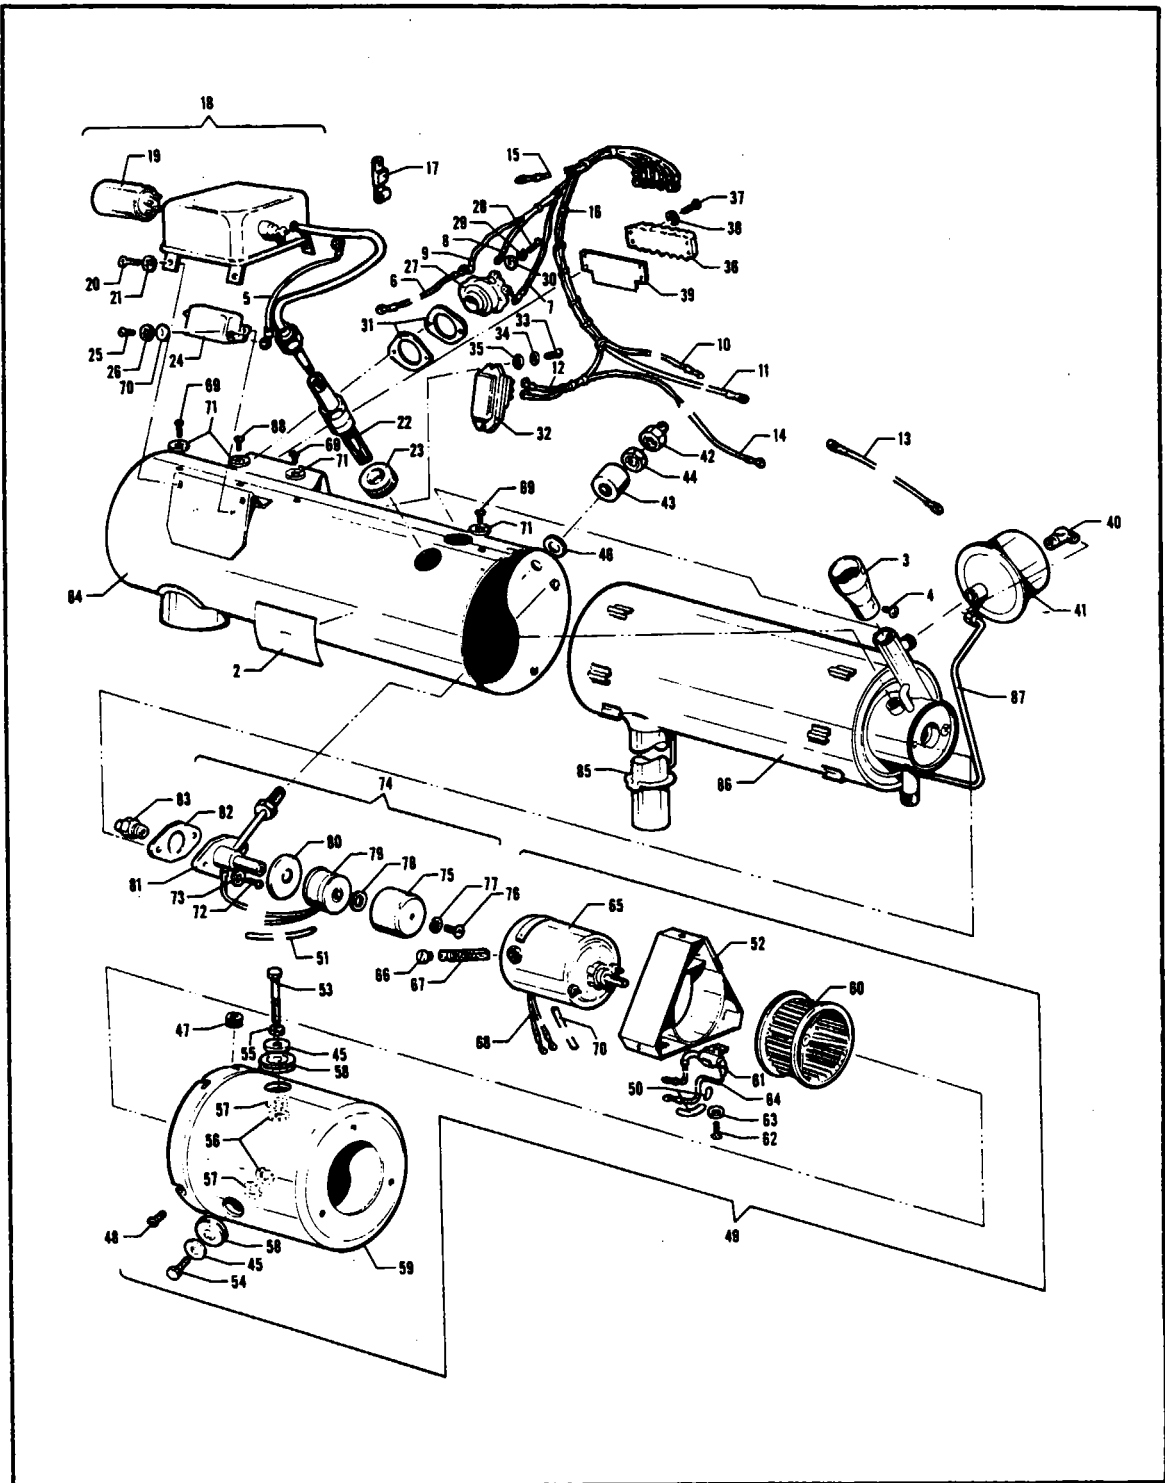

Figure 13-31. Exploded View of Heater Assembly No. 751 978 (14-volt) and 751 999 (28-volt)
e. Spray test the nozzle (Figure 13-31, 83) as follows:
13-127. REASSEMBLY. (Refer to Figure 13-31.)
Legend for Figure 13-31. →
k. Insert the fitting on end of nozzle fuel tube through the opening in the jacket (84) and attach the nozzle holder to the combustion tube assembly (86) with the two screws (72) and lockwashers (73). It may be necessary to place a slight bend in the shrouded fuel tube to permit alignment of screw holes. Be sure to use a new gasket (82) and connect the solenoid ground wire under one of these screws. Make sure a good electrical ground connection exists at this point.
l. Using a new spark plug gasket, install the spark plug (22) and tighten to a torque of 28 foot pounds. Install the grommet (23) in the jacket around the spark plug.
m. Install the ignition assembly (18) on the jacket assembly (84) with the four screws (20) and lockwashers (21). Connect the high-voltage lead to the spark plug and tighten it to 20 foot pounds.
n. Attach the radio-noise filter (24) to the jacket assembly (84) with the two screws (25) and lockwashers (26).
o. Attach the overheat limit switch (27) and spacer gaskets (31) to the jacket assembly (84) with two screws (28), lockwashers (29) and flat washers (30). Tighten the screws securely.
p. Attach the cycling switch (32) to the jacket assembly (84) with the two screws (33), lockwashers (34) and flat washers (35).
q. Place the terminal strip insulation (39) in position on the jacket (84), followed by the terminal strip (36). Secure both parts by installing the two screws (37) and lockwashers (38). The two screws are located at two diagonal corners of the terminal strip.
r. Center the fuel fitting in jacket opening. Place the fuel fitting shroud gasket (46) and shroud (43) on the fuel fitting and install the nut (44) finger tight. Insert a 3/4 inch open-end wrench inside the jacket and hold the fuel-tube fitting while tightening the nut (44) with a 3/4 inch deep socket. Install the reducer fitting (42).
s. Rotate the combustion air switch (41) onto the threaded fitting on the combustion air tube and tighten it firmly.
t. Slide the grommet (47) over the combustion air tube and connect the tube to the elbow fitting (40) on the combustion air pressure switch (41).
u. Install the wiring harness and connect all wire leads to their respective terminals. (Refer to the wiring diagram, Figure 13-25.) Place the grommet (47, Figure 13-31) in position in the jacket (84), locate the ventilating air blower (49) at the end of the jacket. Thread the quick-disconnect on the wiring harness through the grommet (47) and connect it to the mating connector on the motor lead.
v. Place the blower housing in position on the jacket assembly (84) and secure it by installing the four screws (48), if removed at disassembly. This operation is easier if the screws (48) are started into their threads and the blower housing rotated into place, allowing the screws to enter the notched openings in edge of blower housing. Tighten all screws securely.
w. Install the elbow adapter (3) with the screw (4).